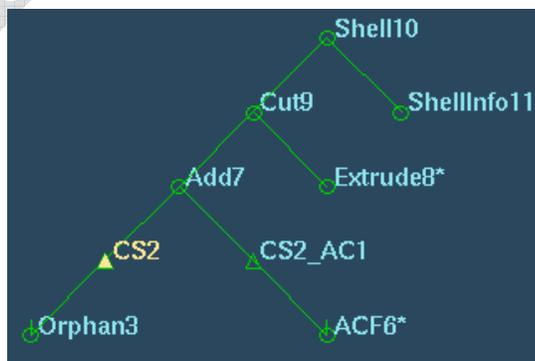

Figure 4: Additional Features created on BORN Node CS2
- 4) Build your history tree using the BORN coordinate system (CS2) to place other reference geometry or to create sketches for your extrudes, cuts, and revolve features. See Figure 4.